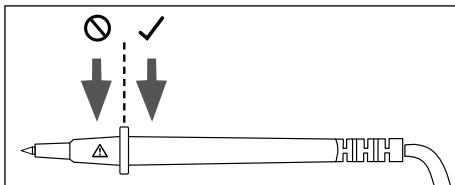

Fig. 3
- ▶ Only hold the test probes **6** in the grip area provided (see Fig. 3). The area with the warning sign **⚠** must not be touched, otherwise there is a danger of electric shock when measuring!